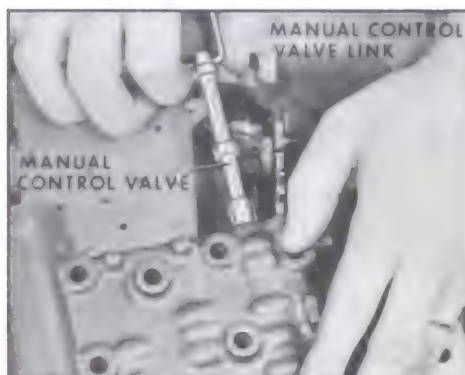

Figure 5-119
10. Remove manual control valve and link from valve body assembly. Remove valve body. See Figure 5-119.